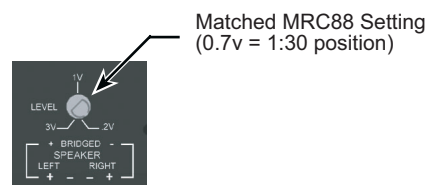

Figure 4: PA435X Level Adjustment setting when used with MRC88
NOTE: To set the Input Level Control for matched output to the MRC88 Speaker output, set the Input Level Control on both pairs to the .7v (1:30) position as shown in **Figure 4** below.
2. If mounted in an equipment cabinet or other confining location, allow at least 2 inches of space above the top cover (see Fig. 4). Be sure there are large openings in the shelf below the unit and in the cabinet to allow the entry of cool air and the escape of warm air.
5. Set the Input Level Adjustment for both channels on the rear of the PA435X according to **Figure 4**. This will match the output of the PA435X to the standard output of the other 6 Zones of the MRC88. You can also adjust higher or lower according to customer preference.